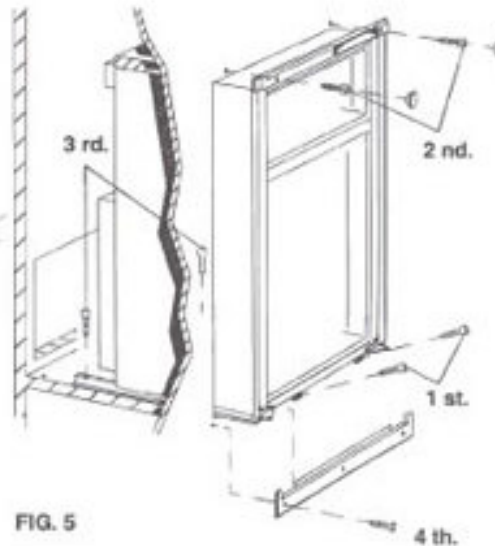

FIG. 5
- Fourth** The refrigerator is provided with a lower front strip (shipped as a loose part). The front strip is to be attached after the refrigerator is set into the cut-out opening, and secured with 3 screws. (See FIG. 5). Failure to follow the sequence in securing refrigerator in enclosure can cause leakage between the frame and cabinet. Plastic caps are provided to cover the screw holes in the decoration strip, at the top frame. Any space between the counter, storage area or ceiling and top of the refrigerator greater than 1-1/2 inches should be blocked. The heat produced at the rear of the refrigerator will become trapped in this space, making the top of the refrigerator hot and reduce the efficiency of the refrigerator.